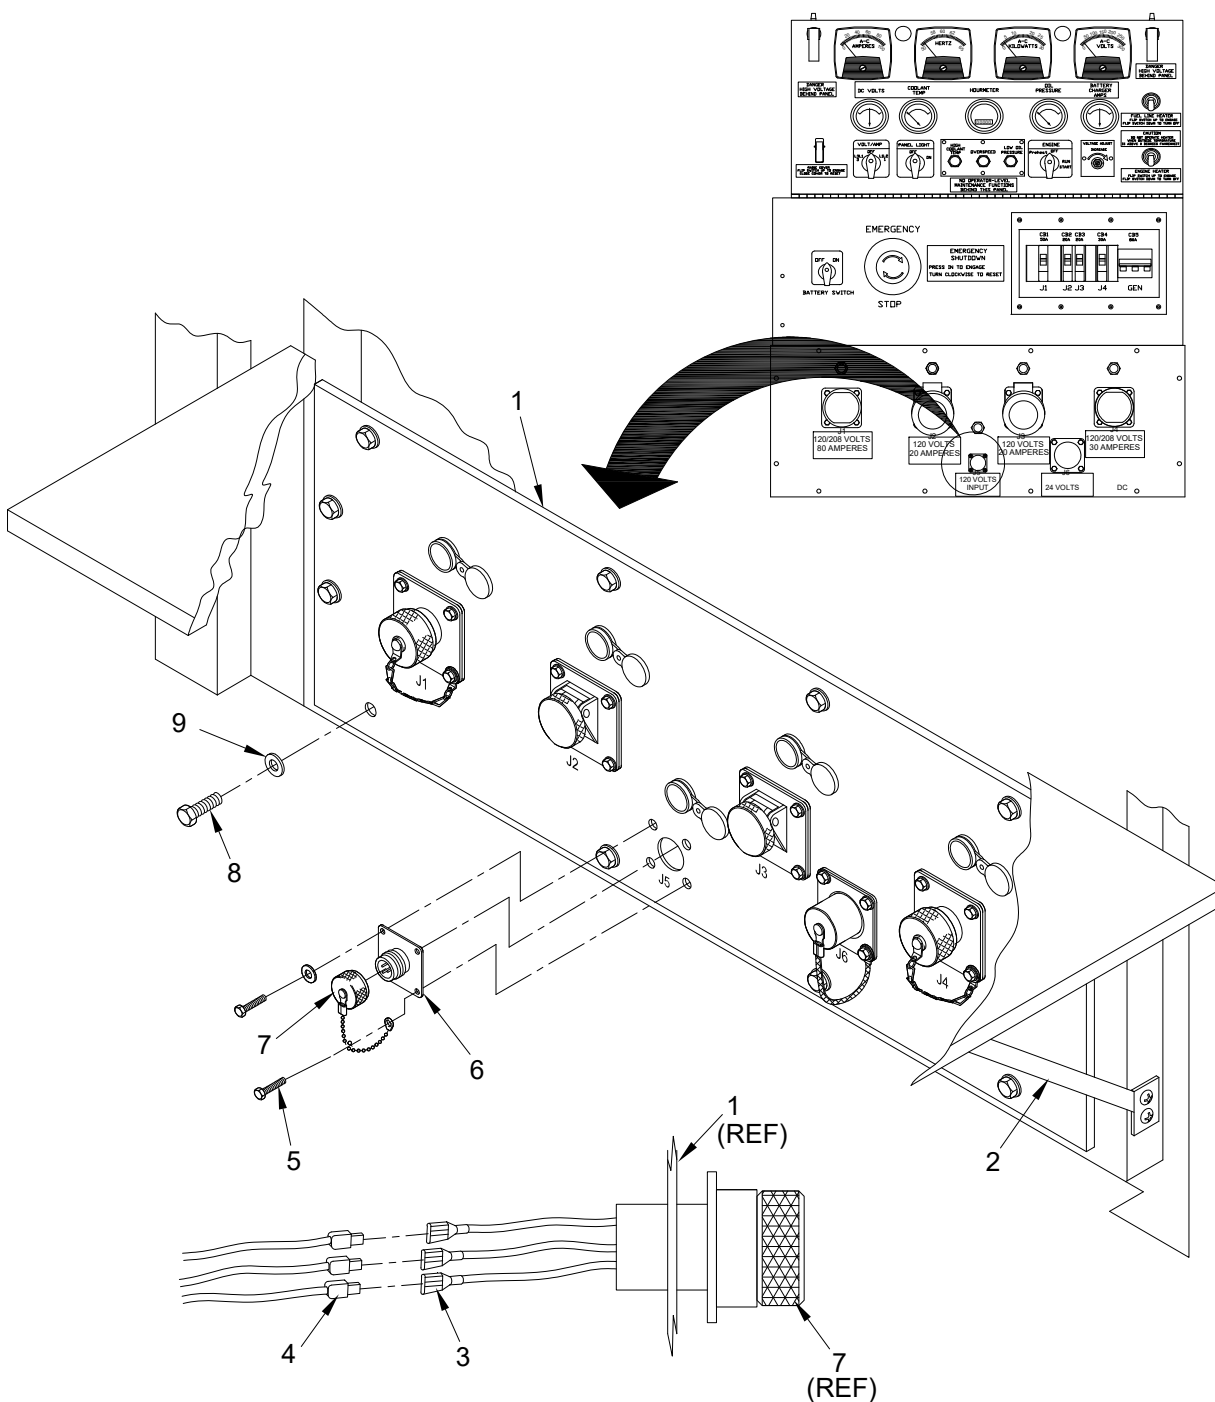

Figure 5. Connector (J5) Removal/Replacement.
10. Install one side of hinge (Figure 5, Item 2) and secure using two screws and bolts (not shown).
4. If necessary, disconnect all cables from power distribution panel (Figure 5, Item 1).
5. Remove and retain twelve bolts (Figure 5, Item 8) and lock washers (Figure 5, Item 9) that secure power distribution panel (Figure 5, Item 1) to Genset.
It may be necessary to remove one latch (Figure 5, Item 2) to remove power distribution panel (Figure 5, Item 1).
6. Remove and retain two screws and bolts (not shown) from one side of hinge (Figure 5, Item 2) and lift hinge (Figure 5, Item 2) out of the way.
7. Remove power distribution panel (Figure 5, Item 1) and lay face down.
8. Disconnect three terminals (Figure 5, Item 3) from wiring harness (Figure 5, Item 4) and remove strap tie securing wires to power distribution panel (Figure 5, Item 1).
9. Remove and retain four screws (Figure 5, Item 5) that secure connector (Figure 5, Item 6) and dust cover (Figure 5, Item 7) to power distribution panel (Figure 5, Item 1).
10. Remove connector (Figure 5, Item 6) (wires will be attached) from power distribution panel (Figure 5, Item 1).
Inspect backside of power distribution panel (Figure 5, Item 1) for four clinch nuts. Ensure that clinch-nuts are securely fastened to power distribution panel (Figure 5, Item 1).
1. Inspect all wires (Figure 5, Items 3 and 4) for nicks, cuts, burn marks, or other damage. If necessary replace with appropriate gauge and color of wire.
2. Feed wires (Figure 5, Item 3) through power distribution panel (Figure 5, Item 1).
3. Connect wires (Figure 5, Item 3) to terminals on chassis wiring harness (Figure 5, Item 4).
4. Properly orientate connector assembly (Figure 5, Item 6) to power distribution panel (Figure 5, Item 1) and insert.
5. Secure connector assembly (Figure 5, Item 6) and dust cover (Figure 5, Item 7) to power distribution panel (Figure 5, Item 1) using four screws (Figure 5, Item 5).
6. Secure loose wires (Figure 5, Item 3) and chassis wiring harness (Figure 5, Item 4) to power distribution panel (Figure 5, Item 1) using strap ties.
7. Install one side of hinge (Figure 5, Item 2) and secure using two screws and bolts (not shown).
8. Place power distribution panel (Figure 5, Item 1) onto Genset and secure using 12 bolts (Figure 5, Item 8), and washers (Figure 5, Item 9).
If latch (Figure 5, Item 2) was removed, reinstall.
9. Connect all cables to power distribution panel (Figure 5, Item 1).
6. Install one side of hinge (Figure 5, Item 2) and secure using two screws and bolts (not shown).